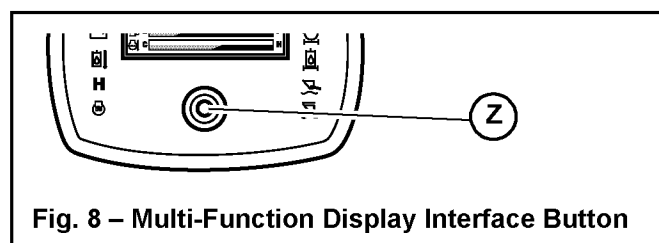

Fig. 8 – Multi-Function Display Interface Button
1. Hold down the interface button (Z, Fig 8) on the multi-function display until the configuration selection screen (Fig 9) displays.